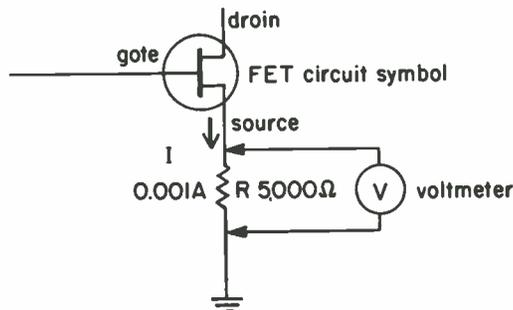

Fig. 19
3. In transmitter circuits using FET transistors, a suitable DC operating voltage (called the *bias voltage*) between the source and ground is often obtained from a resistor— R in Fig. 19—connected between the source and ground. If R is 5,000 Ω and a 0.001-A DC current flows through it as shown, then the DC bias voltage between source and ground, as read by the voltmeter, is _____ volts. The current direction is indicated by the arrow in the drawing. Remembering that current flows from _____ to _____, the voltage developed by the FET that causes the current to flow is positive at the (*top*) (*bottom*) of the resistor and negative at the (*top*) (*bottom*).